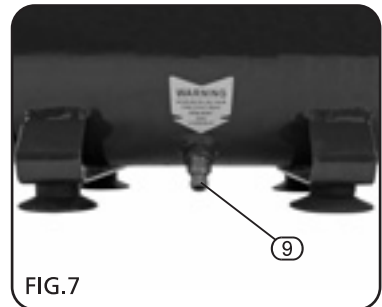

FIG.7
11.2 DRAINING WATER FROM THE TANK – FIG. 7